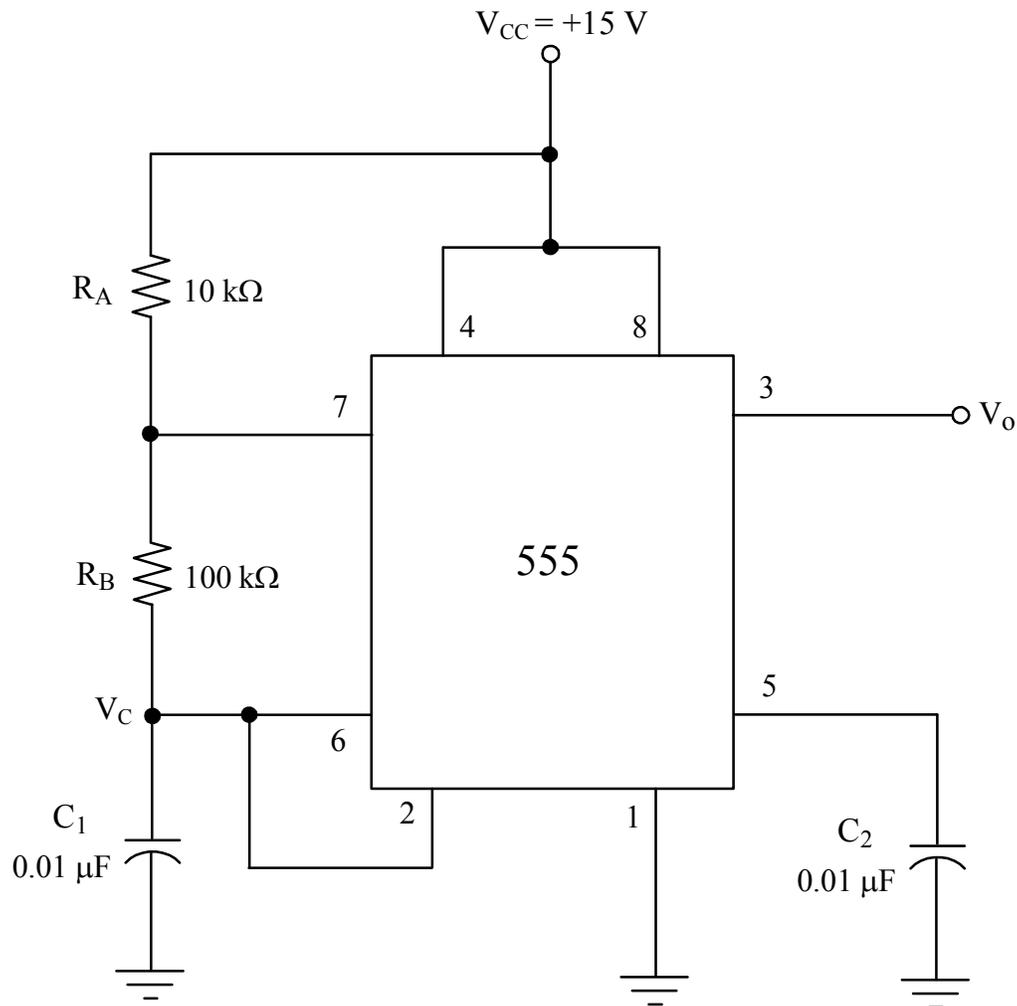

Figure 2
1. Connect the circuit as in Figure 2. Connect CH 1 of the oscilloscope at V_C and CH 2 at V_O terminal.
2. Measure the frequency (f_0) and duty-cycle (DC) of the waveform, V_O . Record the results in Table 2.